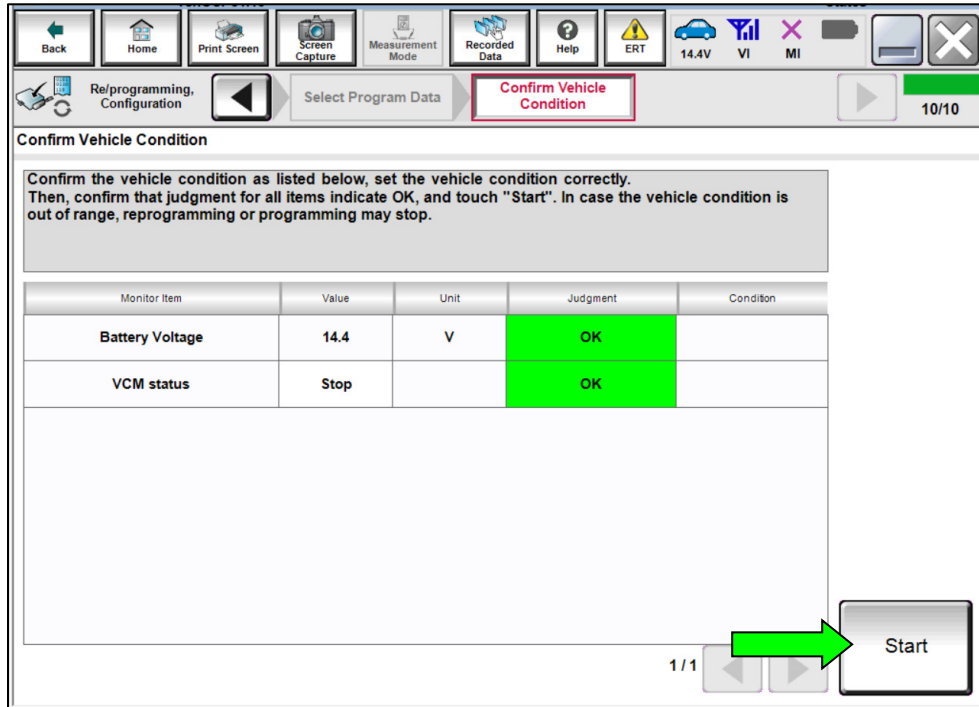

Figure 15
- If any of the items shown in Figure 15 display a status of NG, verify the battery maintainer/smart charger is turned ON and is securely connected to the 12 V battery, and ensure the vehicle is NOT in Ready mode.